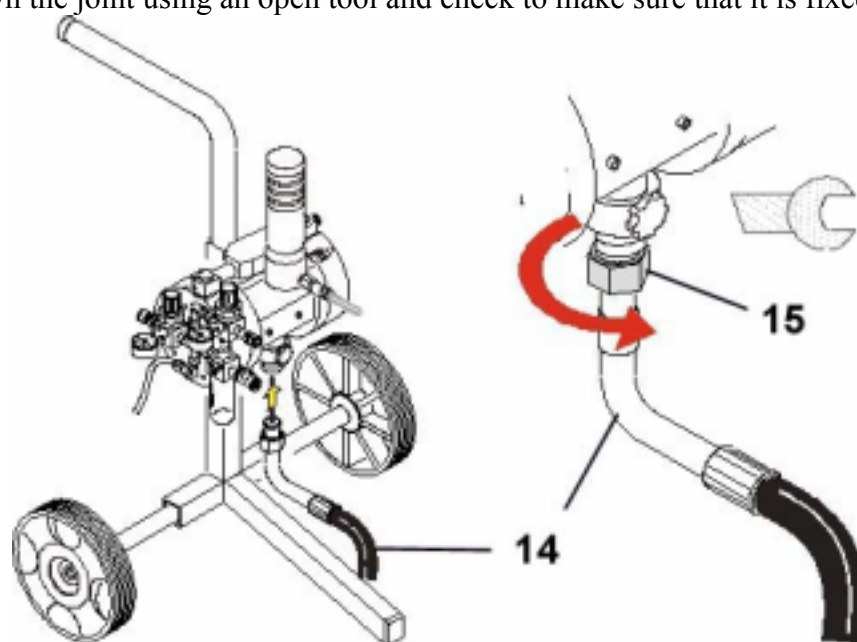

Fig. 19
- 8 Fix the suction pipe (14) to the pump casing using the relative joint (15) (Fig. 19). Screw down the joint using an open tool and check to make sure that it is fixed correctly.